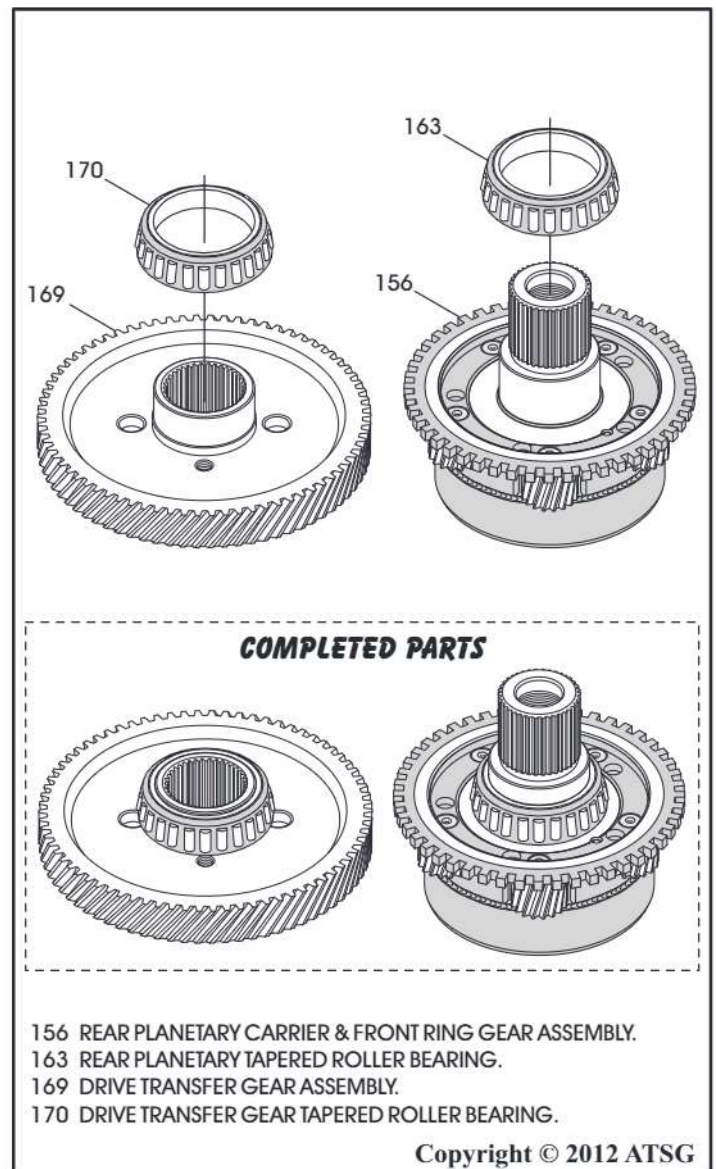

Figure 109
40. Install new tapered roller bearings on the rear planetary carrier and the drive transfer gear, as shown in Figure 109, using the proper adapters and hydraulic shop press.